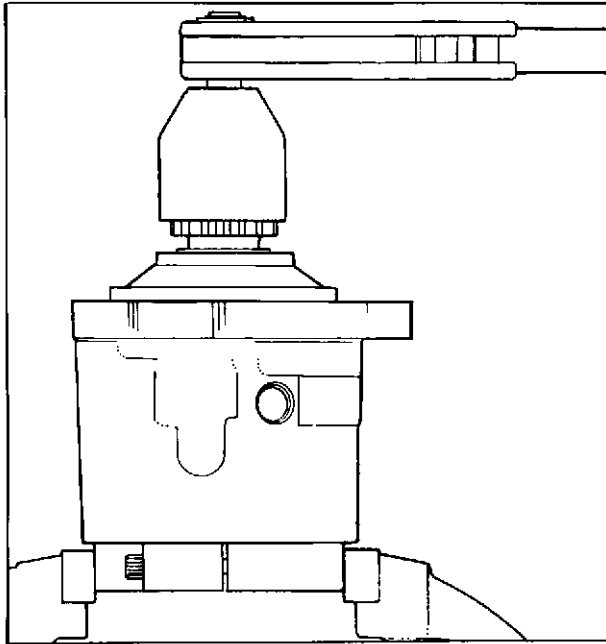

Fig. 21 Tightening trip plate
5. Smear the locking balls (1) and overspeed balls (2) with Aero Shell 16 grease and insert them in the positions shown. Place locking collar (3) in position over the balls.
6. Degrease the threads of the pinion sleeve and trip plate (4) and then smear both threads with 'Loctite' green retaining compound No. 290.
7. Place spring (5) in position and screw on the trip plate finger tight.
8. Secure tool No. 6244-50 over the trip plate boss and clamp the assembly in a vice as shown in fig. 21. Using the correct pinion socket, tighten the pinion to a torque value of 54.2 to 67.8 Nm (40 to 50 lbf. ft.).